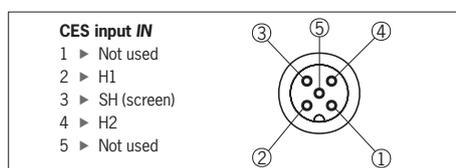

Figure 1: Socket assignment (view of connection side)
- ▶ Connect the CES read heads to the CES inputs *IN* (M12 socket 5-pin) (see Figure 1)